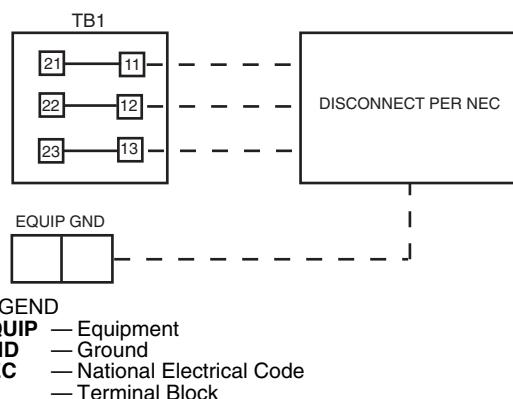

Fig. 42 — Field Power Wiring Connections
When installing units, provide a disconnect per NEC (National Electrical Code) of adequate size (MOCP [maximum overcurrent protection] of unit is on the informative plate). All field wiring must comply with NEC and all local codes. Size wire based on MCA (minimum circuit amps) on the unit informative plate. See Fig. 42 for power wiring connections to the unit power terminal block and equipment ground. Maximum wire size is two (2) 500 MCM (maximum wire size) conductors per pole.